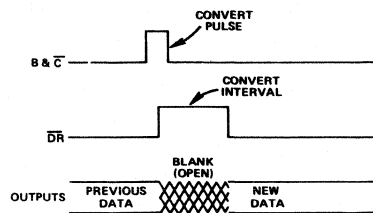
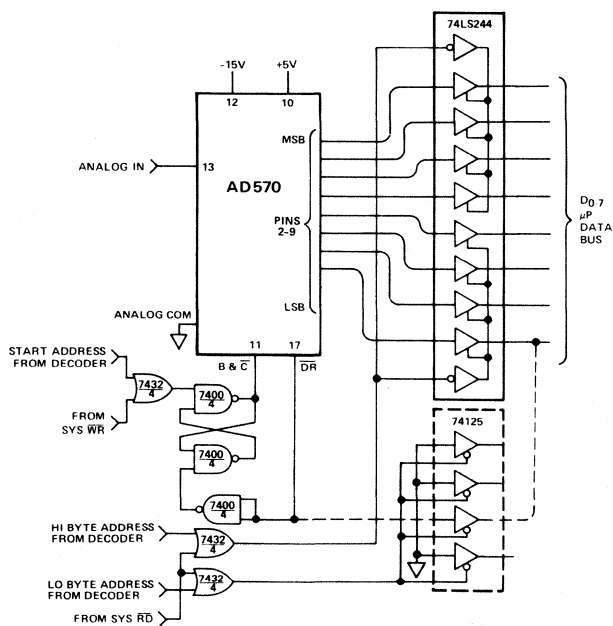

Figure 12. Convert Pulse Mode
Figure 15. Interfacing AD570 to an 8-Bit Bus (8080 Control Structure)
**Convert Pulse Mode** — In this mode, data is present at the output of the converter at all times except when conversion is taking place. Figure 12 illustrates the timing of this mode. The  $\overline{\text{BLANK}}$  and  $\overline{\text{CONVERT}}$  line is normally low and conversions are triggered by a positive pulse. A typical application for this timing mode is shown in Figure 15, in which  $\mu\text{P}$  bus interfacing is easily accomplished with three-state buffers.
The AD570 can easily be arranged to be driven from standard microprocessor control lines and to present data to any standard microprocessor bus (4-, 8-, 12- or 16-bit) with a minimum of additional control components. The configuration shown in Figure 15 is designed to operate with an 8-bit bus and standard 8080 control signals.